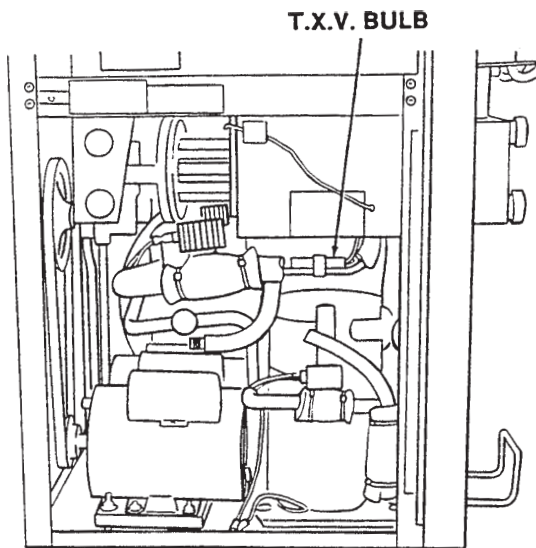

Figure 35. Bulb Removal
1. Remove the two Phillips head screws from the bottom of the front and side panels then slide the panels down and out (Figure 35).
2. Remove the bulb from the suction line exiting from the evaporator (Figure 35).